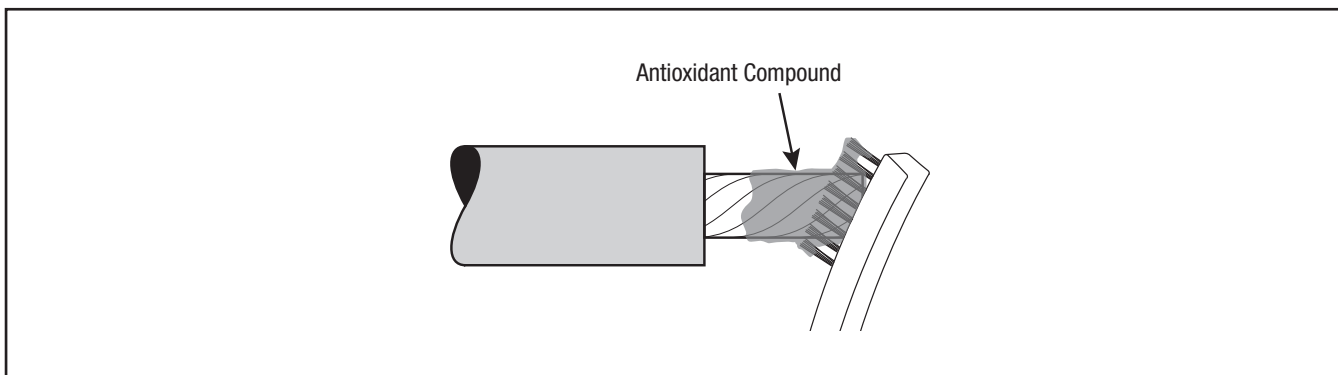

Figure 11
- 3.5 Install connector. See table (on cover) for proper connector dimensions. (For standard 3M Connectors, refer to table at the end of this instruction for crimping information). If using an aluminum conductor, wire brush aluminum strands and then insert into connector. Remove excess inhibitor compound and remove conductor from connector. Wire brush aluminum strands again. Insert into connector and crimp. Remove any excess oxidation inhibitor from connector ends (Figures 11 and 12). File sharp connector flashing, if necessary, taking care to remove all metal filings from splice area.